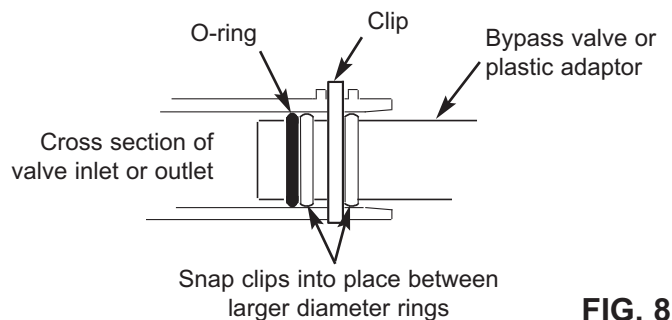

FIG. 8
- Snap the two large plastic clips in place on the inlet and outlet ports, from the top, down (See Figure 8). Be sure they snap into place. Pull on the bypass valve, or installation adaptors, to make sure they are held securely in place.